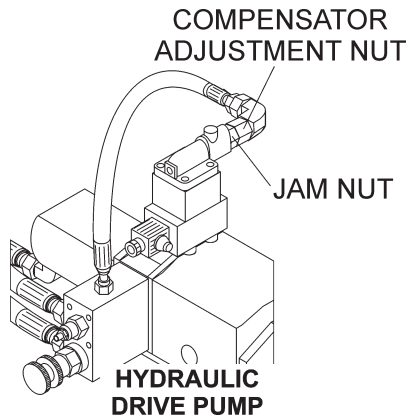

Figure 44. Compensator Valve
2. Loosen the **jam nut** located on the end of the compensator valve (Figure 44).
3. Turn the **compensator adjustment nut** (Figure 44) **clockwise** until tight. Tighten the ¼” hose leading to the compensator.
8. Turn the engine off and loosen the hose from the compensator valve. Loosen the jam nut and turn the **compensator adjustment nut** (Figure 44) **counter-clockwise ½ turn**. Tighten the ¼” hydraulic hose.